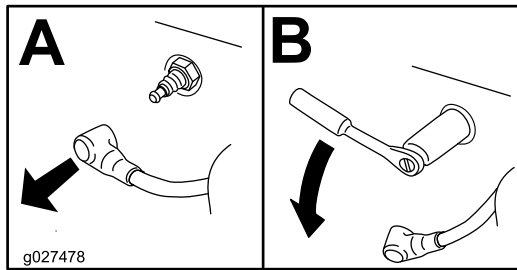

Figure 49
4. Locate and remove the spark plug(s) as shown in Figure 49.